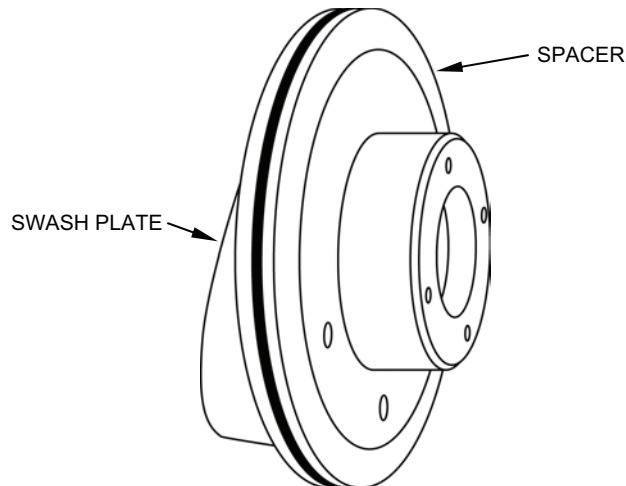

Figure 38. Spacer Mounted On The Swash Plate.
- r. Mount the spacer on the swash plate (see Figure 38)